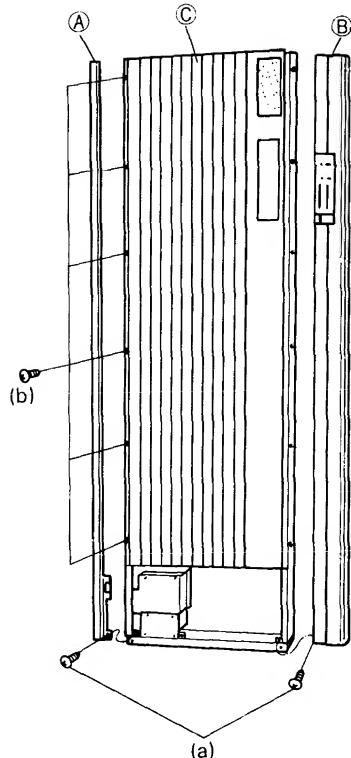

Fig. 3
- (1) Unfasten two screws (a) and slide the corner panels (A) and (B) upward to remove them.
- (2) Remove the front panel (C) by unfastening 12 screws (b) on both sides. (See Figure 3.)